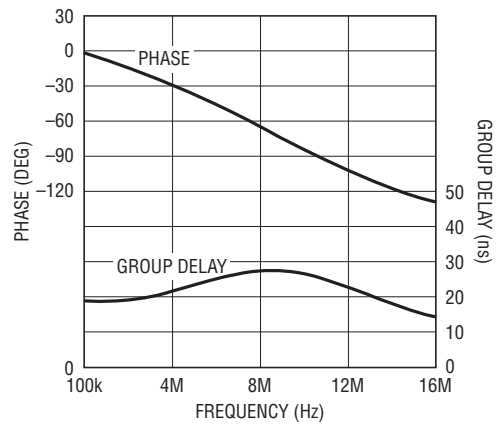

Figure 14. Modified Filter Configuration Using a Resistor Between Summing Nodes ($f_{-3dB} = 13\text{MHz}$)
Figures 14 to 17 show additional circuits highlighting the use of R4 or C3 in the modified second order circuit to set the $f_{3\text{dB}}$ frequency to 13MHz, 19MHz, 22.7MHz and 24.6MHz respectively.
4. Calculate the required external resistor R_{EXT} value for the R4 value in step 3. Example, in Figure 14 the Q value for $f_{3\text{dB}} = 5\text{MHz}$ is 0.54, the required R4 resistor is 350Ω , the R4A and R4B resistors are the internal 100Ω and the R_{EXT} resistor is 150Ω [$R_{\text{EXT}} = R4 - (R4A + R4B)$].